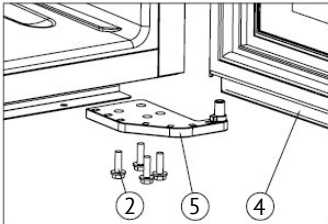

Figure 2
➔ Unscrew the M5\*16 screws (2), dismantle the right lower hinge (5) (Figure 2).